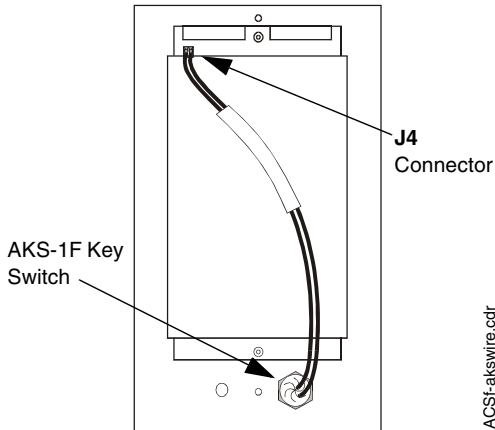

Figure 11 Annunciator Key Switch
4. If employing a keyswitch, mount it to the trim plate. Plug the switch lead to Connector J4 on the annunciator (see Figure 11 on page 30).